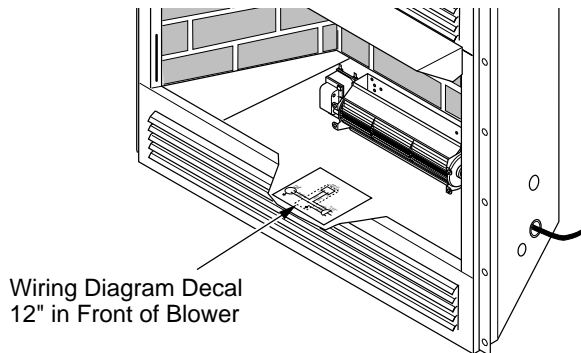

Figure 27 - Location of Wiring Diagram Decal (Model May Vary From Illustration)
- Peel off the backing paper and stick the supplied wiring diagram decal on the firebox bottom approximately 12" in front of the blower (see Figure 27).